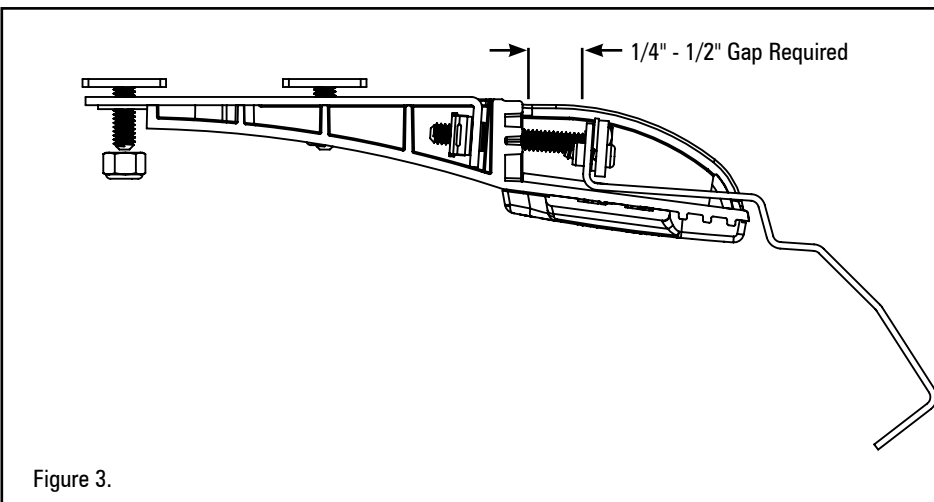

Figure 3.
2. Place lightbar centered on the roof, and hold brackets up to the lightbar. A 1/4" to 1/2" gap should be between the hook bracket and front wall of the mounting foot prior to putting any tension on the hook bracket bolt (See Figure 3). Adjust the mounting foot position to accommodate for this gap.
1. Attach the supplied screws to the mounting foot to secure the rubber pad as shown in Figure 3. Be sure the torque does not exceed 10 IN-LB.